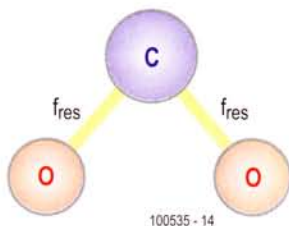
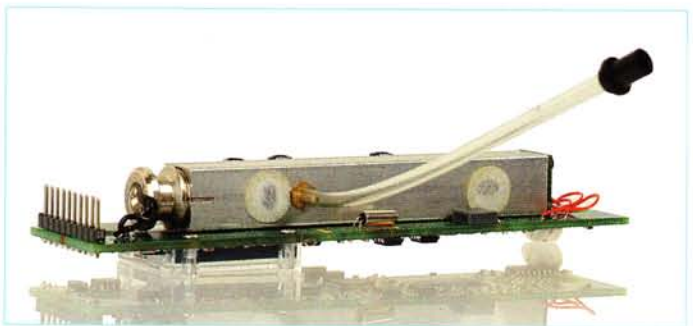

Figure 5. A CO_2 molecule.
Figure 9. The ZG-02 IR-module from ZyAura (photo: ZyAura)
Gas molecules consist of atoms. **Figure 5** shows a carbon-dioxide atom (CO_2), but such a picture also applies to carbon-monoxide (CO), nitrogen-dioxide (NO_2), nitrogen-monoxide (NO), ozone (O_3), methane (CH_4), sulphur-dioxide (SO_2), etc. The bond between atoms has one or more resonant frequencies which are a characteristic of a particular molecule and so for the gas of interest.
cal noise reduction and fast Fourier analysis (FFT, Fast Fourier Transform) the chopper and reference cell can be omitted. Miniature versions of the design of **Figure 5** are now possible, such as the ZG-01 and ZG02 IR modules from ZyAura [7] (**Figure 9**), which we used in our CO₂ monitor in the May 2010 edition of Elektor. The Japanese Shinyei uses the principle of IR detection in integrated detectors for dust particles and pollen [5], fully integrated with sample-pump and measuring cell on a board measuring about 6 by 5 cm (see **Figure 10**).